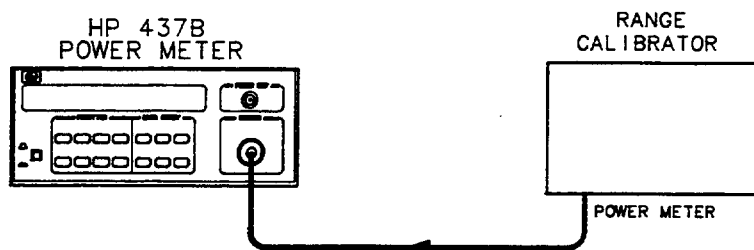

Figure 5-1. 220 Hz Frequency Adjustment Setup
2. Connect the range calibrator to the Power Meter as shown in Figure 5-1.